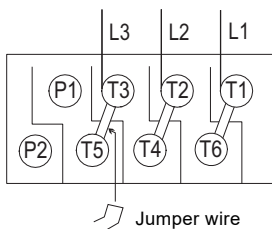

Fig. 16 Speed 2 (high speed)
- figure 16 for speed 2 - high speed.